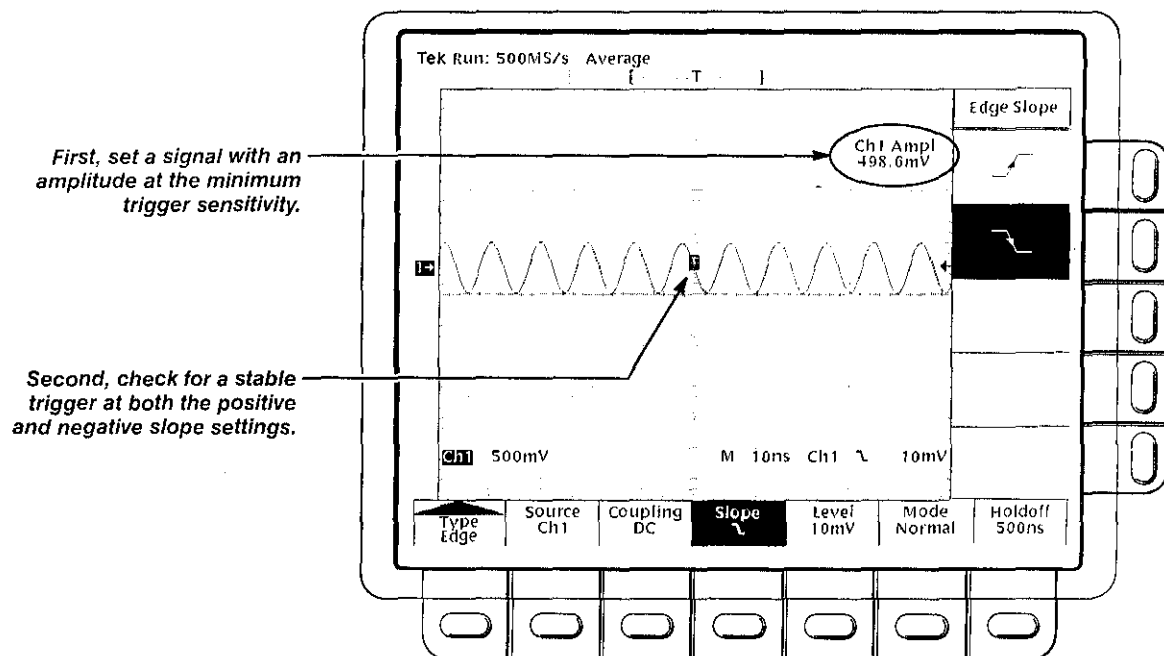

Figure 6-9: Measuring Trigger Sensitivity
15. Press **SET LEVEL TO 50%**. Check that a stable trigger is obtained for the test waveform on both the positive and negative slopes (see Figure 6-9). (Use the side menu to switch between trigger slopes; use the trigger **LEVEL** knob to stabilize the trigger if required.)